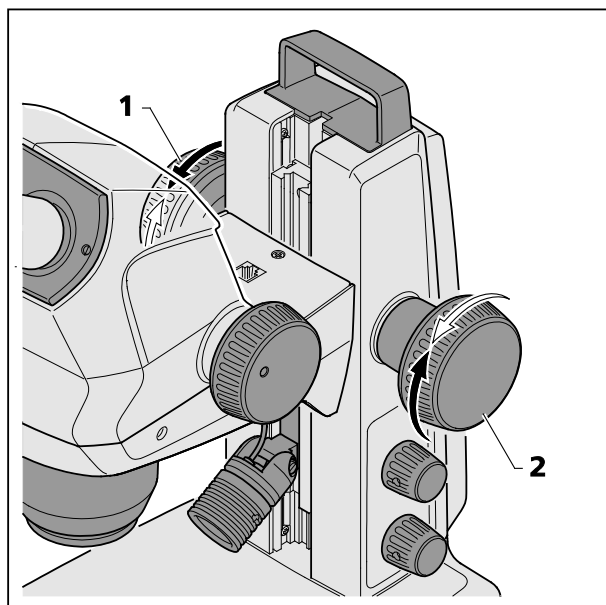

**Fig. 7** Installing the stereo microscope
- Place stand (Fig. 7/3) on a level, firm support.
- If the Stemi 508 body (Fig. 7/2) has not yet been mounted, insert it in the Stemi mount (Fig. 7/4), align it and secure it using the clamping screw (Fig. 7/5).
The appropriate Allen key (Fig. 7/8) is located in the support on the back of the device.
- If the two eyepieces (Fig. 7/1) have not yet been mounted, insert them both to their stop in the eyepiece tube.
- Insert glass plate or B/W plastic plate (Fig. 7/6) in the mount in the base of the stand. To this effect, press the glass plate or the B/W plastic plate against the spring (Fig. 7/7) and make it lock in.